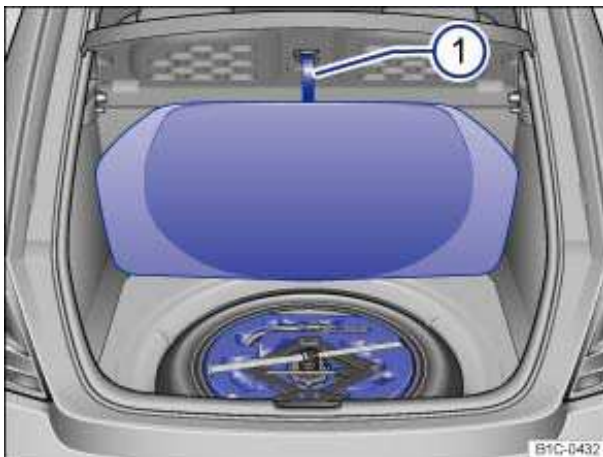

Fig. 135 In the luggage compartment: Floor covering raised and 1 secured.
- Lift the floor panel by the handle and hang it on the hook beneath the luggage compartment cover ⇒ fig. 135 \(1\).